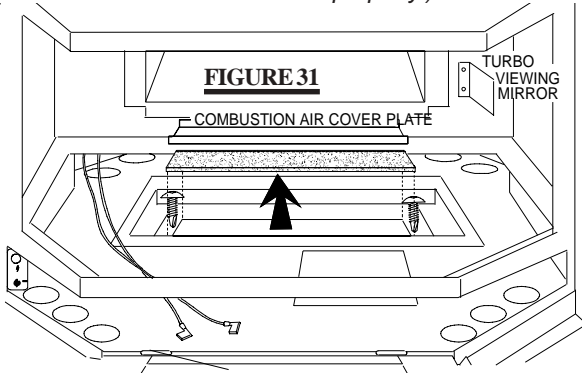

FIGURE 31
3. Undo the bracket holding the thermodisc, turn 90° as shown and reattach to the weld stud located on the right air manifold side. **FIGURE 31.** (Do not tighten the wing nut until burner is installed; then ensure that the switch firmly touches the underside of the burner tray and tighten. This enables the blower to function properly.)